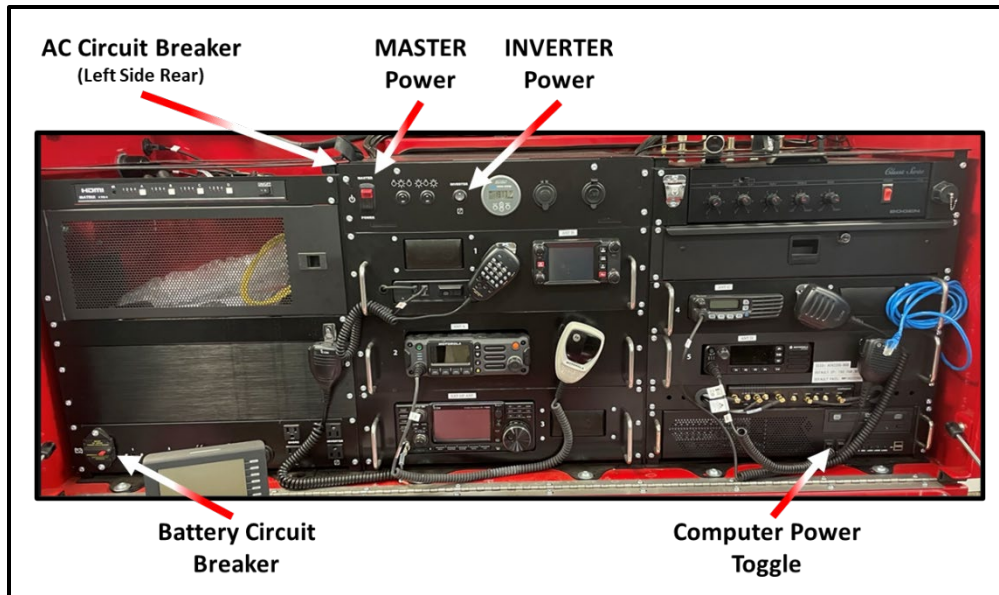

Figure 1. Command Runner Circuit Breakers and Power Switches
6. Set the AC Circuit Breaker to the ON position. Refer to Figure 1 for breaker location.